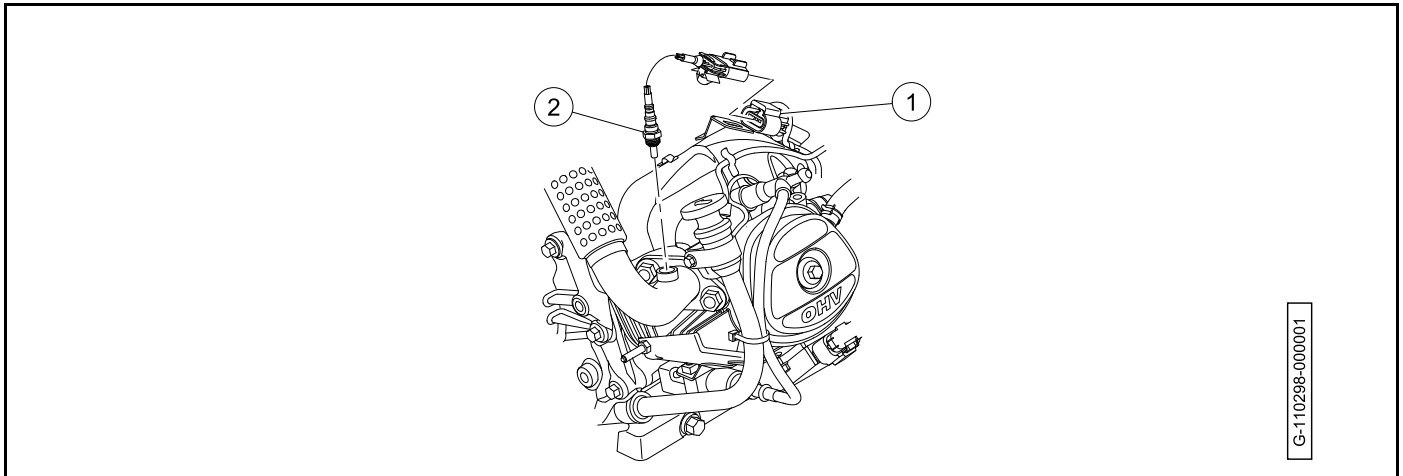

Figure 19-41 Oxygen Sensor
2. Disconnect the oxygen sensor connector from the engine wire harness (1) (**Figure 19-41, Page 19-37**).
1. Install the oxygen sensor (2) into the muffler tube (**Figure 19-41, Page 19-37**). Tighten the oxygen sensor to 13.25 ft·lb (18 N·m).
2. Connect the oxygen sensor connector to the engine wire harness (1).